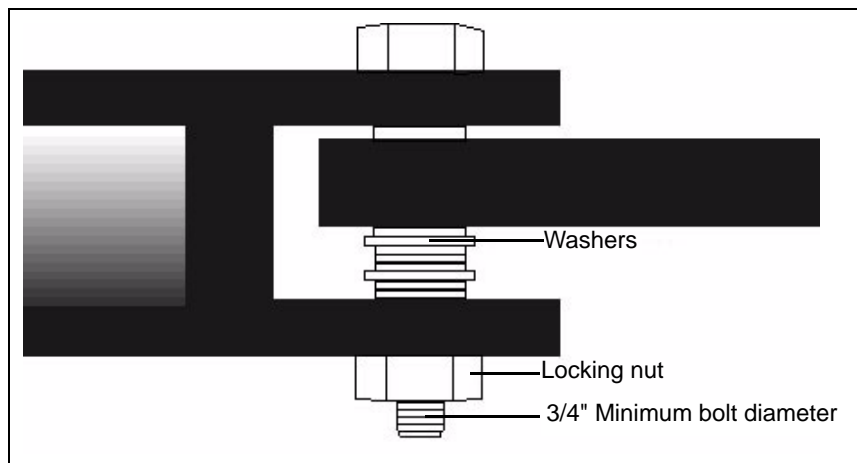

Figure 4B A 3/4" Hitch Bolt and Washers Fastened with a Locking Nut at the Bottom of the Hitch
2. Hitch bolt must be at least 3/4" in diameter and securely fastened with a locking nut, so it will not come out during travel and the hitch will not bend. (See Figure 4B.)
3. Be sure to minimize vertical hitch play with washers. (See Figure 4B.)